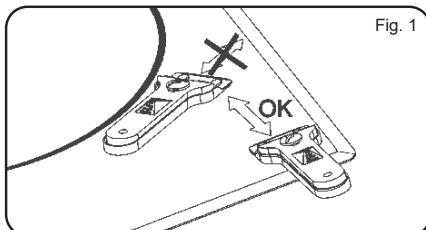

Fig. 1
**! If you use the spatula incorrectly, the blade may break. If this happens, do not try to remove the piece with your hands, use pliers or a knife with a thin blade carefully. (See Fig. 1)**